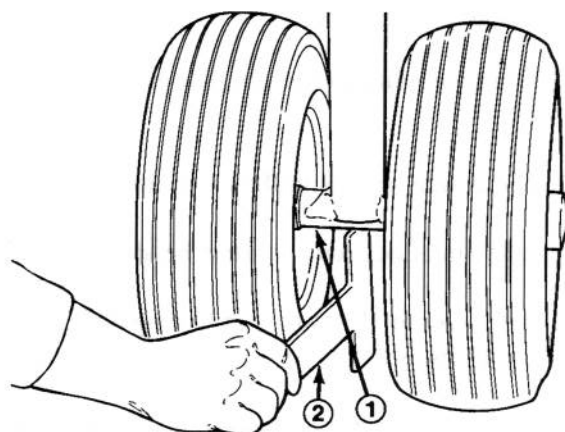

Figure 9
2. Slide the short end of the frame height gauge under the front axle to verify height. The gauge should contact the axle when on the floor. Check both sides (Fig. 9).